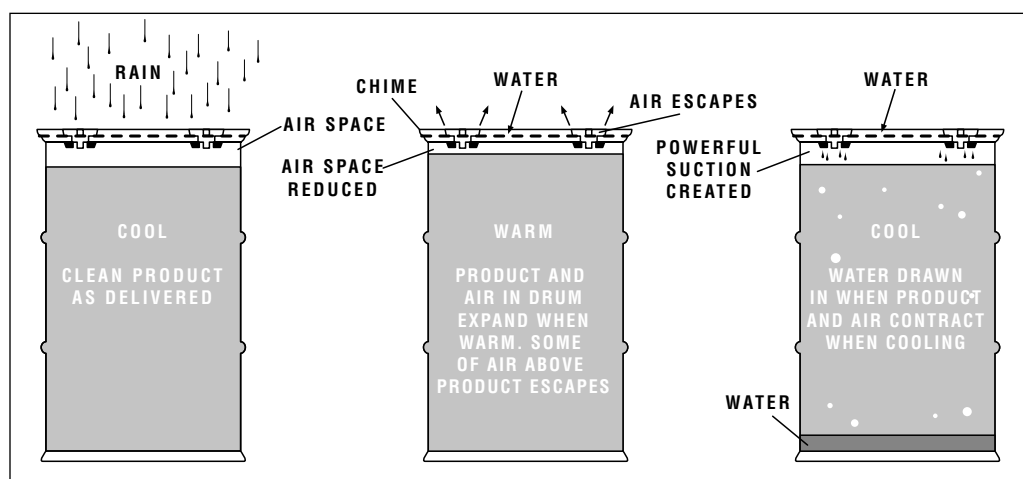

Fig. 6—Moisture breathing in an upright drum.
3. Water may enter the drum around the bungs and contaminate or destroy the contents. A drum standing on end with the bungs up can collect rain water or condensed atmospheric moisture inside the chime. This water can gradually seep in around the bungs as the drum breathes with changing ambient temperature (Fig. 6). Moisture incursion occurs even with the bungs drawn tight and tamperproof seals in place.